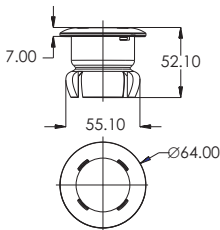

Figure 1
- 1) This underwater light is mounted to the wall in the 2" PVC pipe (Imperial 1/2 Bar, Metric 1.25 Mpa), before installation, selecting a suitable PVC pipe. (Note: Due to a variety of different wall thickness PVC pipe, please refer to Figure 1 to choose appropriate size of tube)